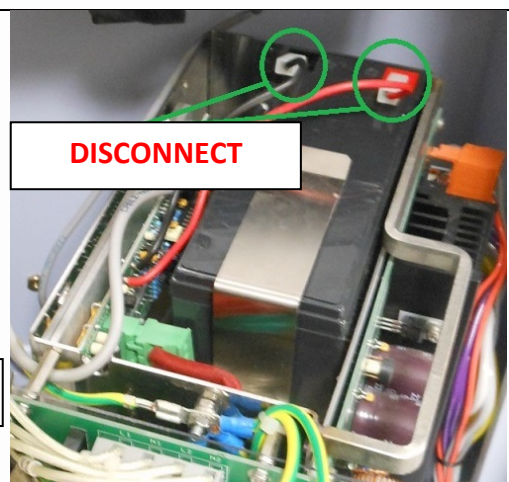

Fig. 11
12. If not already performed, disconnect power cables from battery (**Fig. 11**).